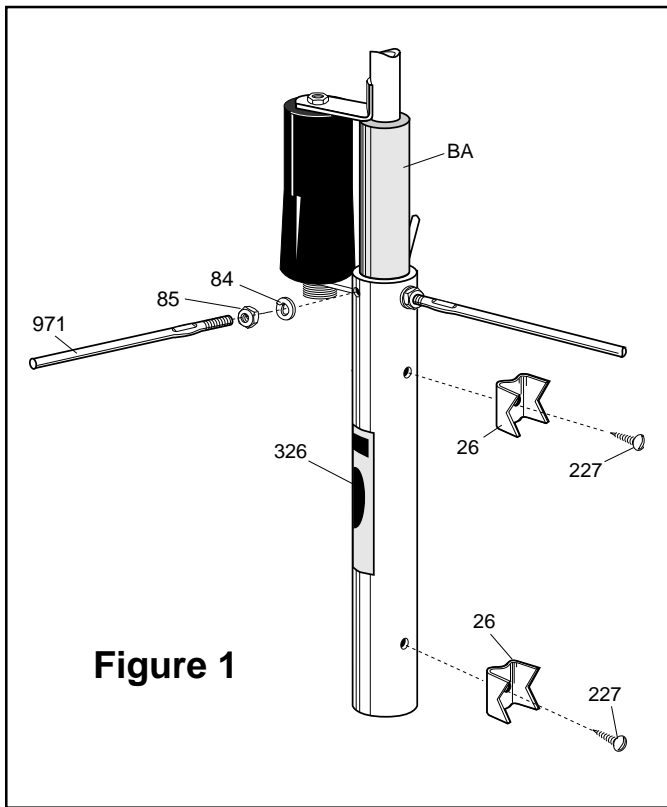

Figure 1
Install nut (85) then washer (84) onto each of the three radial rods (971) per figure 1. Thread all three radials an equal amount into the base assembly (BA) until they touch each other inside the base tube. Be very careful not to overtighten the radial rods or their locking nuts. Overtightening may cause damage not covered by the warranty.
Attach aluminum brackets (26) to the base tube with self-tapping screws (227). Affix danger label (326) as shown in Figure 1.